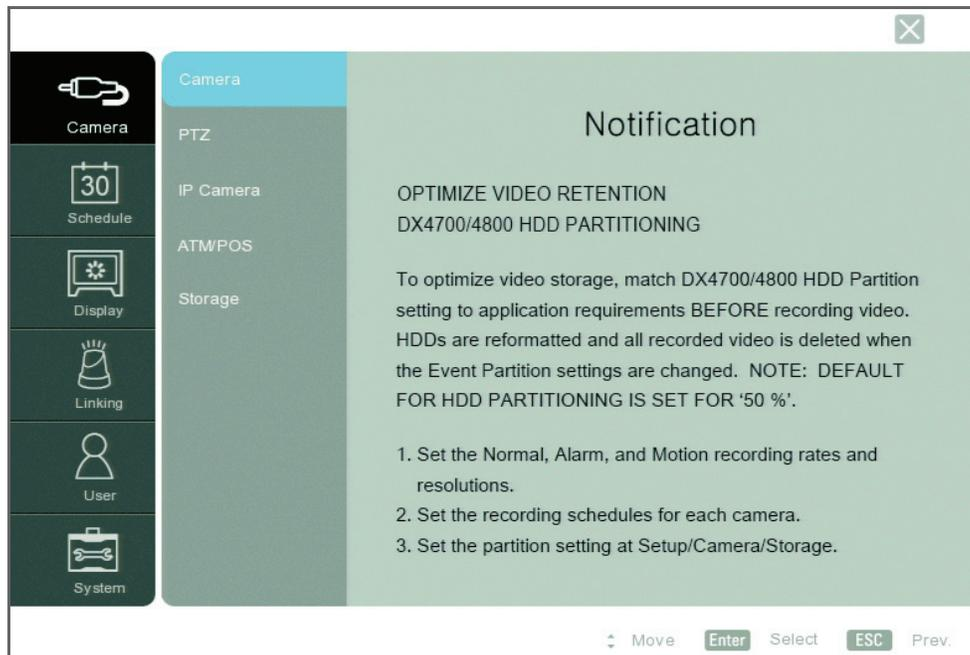

Figure 5. Camera Page and Partitioning Notification
**WARNING:** Before you use the unit to record video, refer to Figure 5 and read the HDD partition notification.